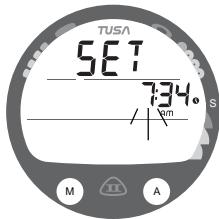

Fig. 36 - SET TIME
**Set Time**, information includes (Fig. 36):